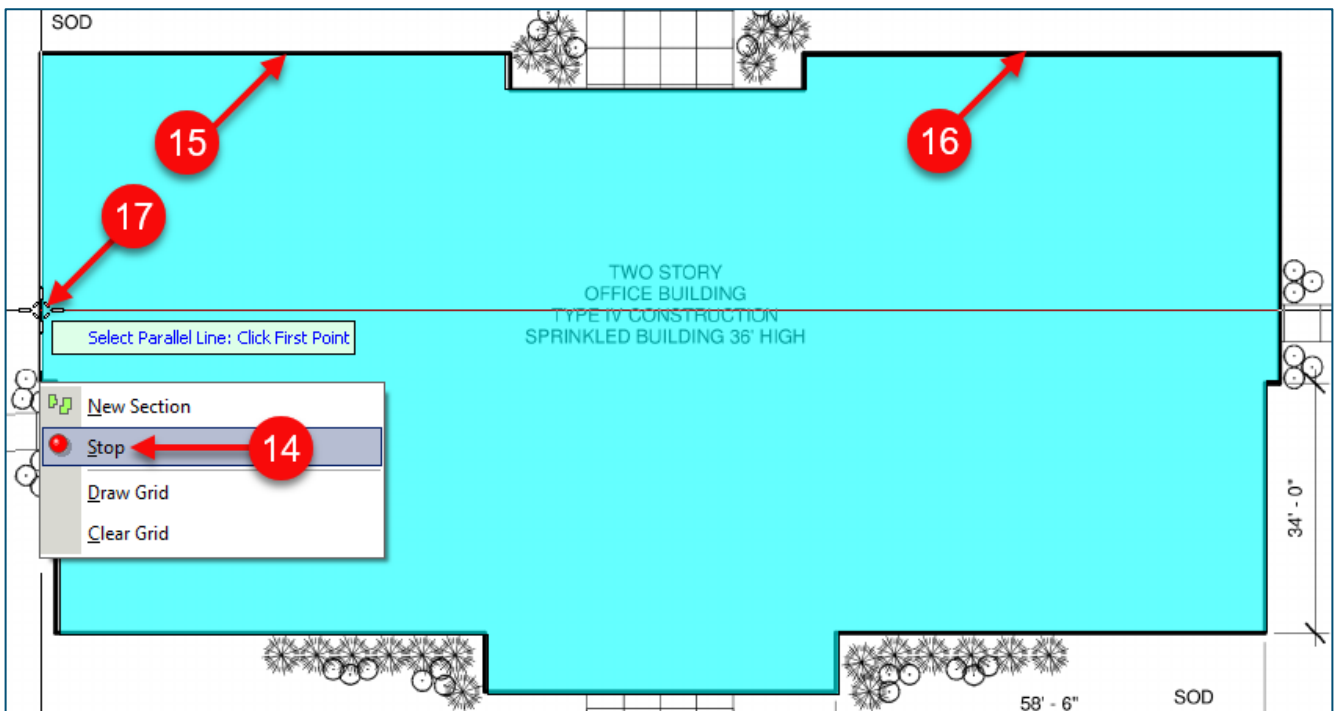

Figure 35-B
18. The grid now appears beginning at the start **Point** (Fig. 35-C).